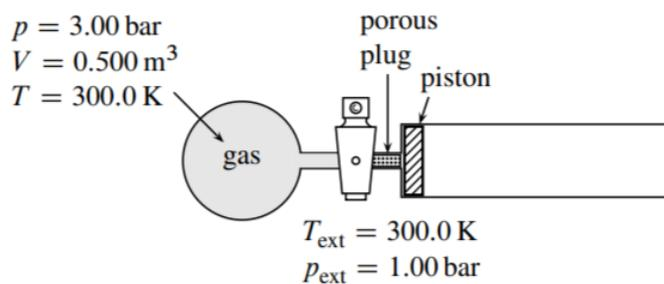

Figure 3.23
3.3 Figure 3.23 shows the initial state of an apparatus consisting of an ideal gas in a bulb, a stopcock, a porous plug, and a cylinder containing a frictionless piston. The walls are diathermal, and the surroundings are at a constant temperature of 300.0 K and a constant pressure of 1.00 bar.